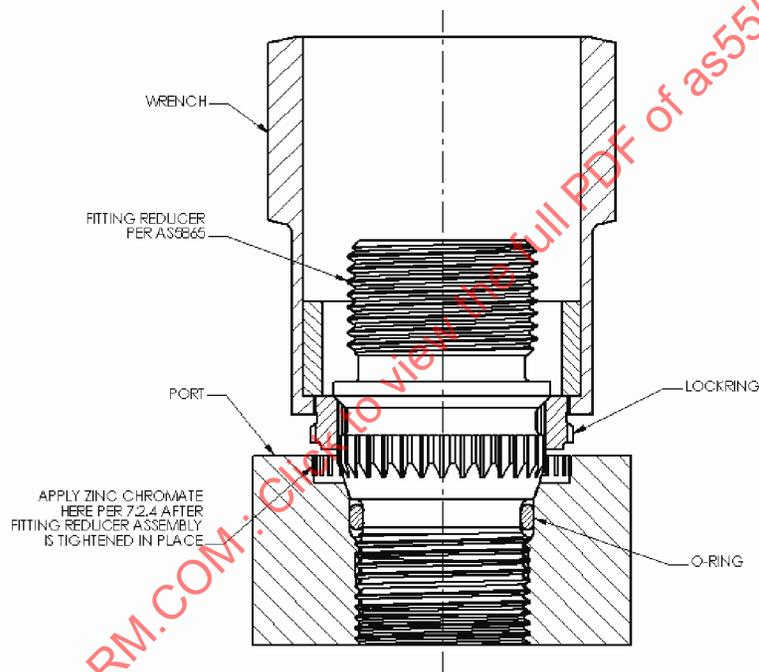

FIGURE 8 - Torquing Fitting Reducer Assembly
- 7.2.3 Using the applicable wrench in Table 2B, engage the serrations of the tool with the external serrations of the lockring per Figure 8. Place a torque wrench of the proper size over the hex of the wrench and apply a torque equal to the minimum value specified in Table 2A. Note the relationship of the lockring serrations with respect to the prebroached serrations in the port. If they match, proceed to 7.2.4. If the lockring serrations do not match the prebroached serrations in the port, continue to slowly torque toward the maximum value allowed in Table 2A until the serrations match. This will normally take between 3° and 8° of turning, the maximum value need not be reached if the serrations align themselves prior to that value. Do not exceed maximum torque values.